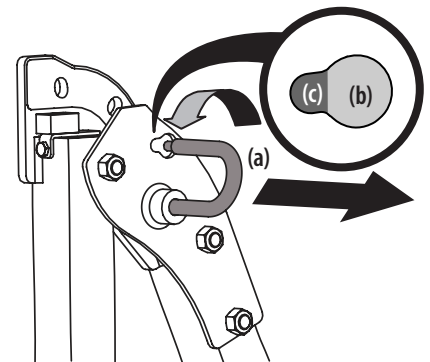

Figure 3-3
- To change the position of the ROPS, pull slightly up/push forward on the upper ROPS to relieve any tension on the locking pin (a) and rotate the locking pin (a) from the LOCKED (b) position into the ADJUSTMENT (c) position. Repeat the procedure for the locking pin on the opposite side. See Figure 3-3.